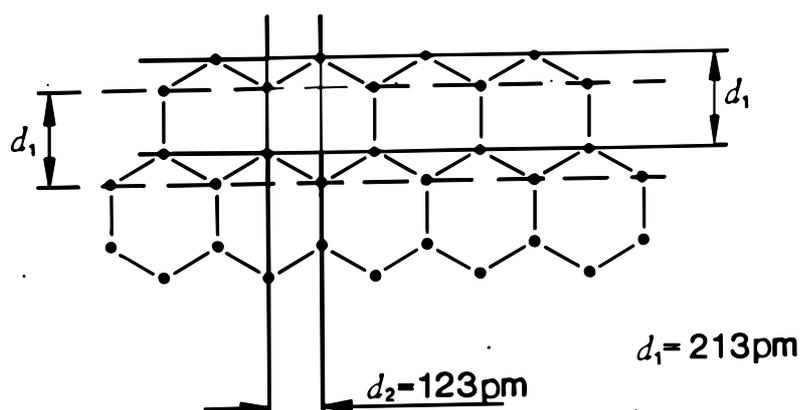

Fig.3. Graphite planes for first two interference rings
The two inner interference rings occur through the reflection from the lattice planes of spacing: d_1 , d_2 (see Fig.3).
The observations of radii of the first order rings made for a set of acceleration (anode) voltages - i.e. different wavelengths of electron beam one can obtain two graphite planes spacing values : d_1 , d_2 - Fig.3.
2. Compare established - d_1, d_2 inter-planar spacings in graphite with literature data (see fig.3).